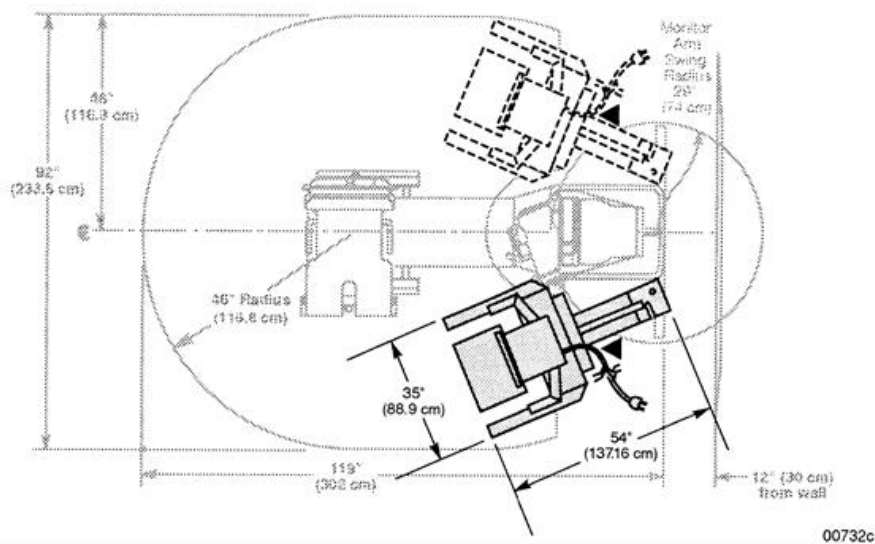

Figure 1-3 CSMi NORM / TEF Modular Component Minimum Floor Space.
- Recommended Minimum Installation Area: (See Figure 1-3)
- The wall outlet for the TEF Modular Component should be located within a 10 radius of the point indicated by the symbol ◀ in Figure 1-3.
The TEF Modular Component is designed to fit through standard size doorways within a facility. (Refer to Figure 1-3 for dimensions.) If your facility doorway is smaller, use the following procedure to remove the Rear Strut Assembly from the TEF Modular Component.